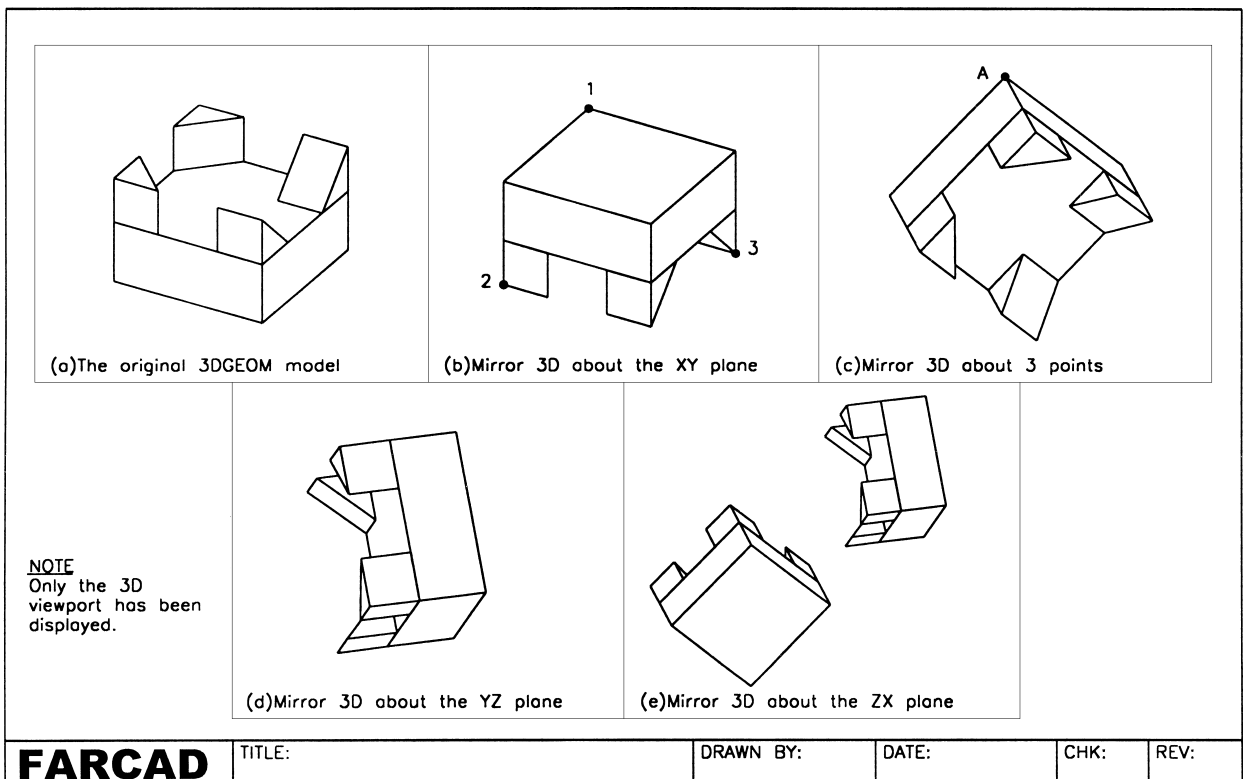

Figure 22.3 The MIRROR 3D command using 3DGEOM model.
- 2 Refer to Fig. 22.3 which again only displays the 3D viewport